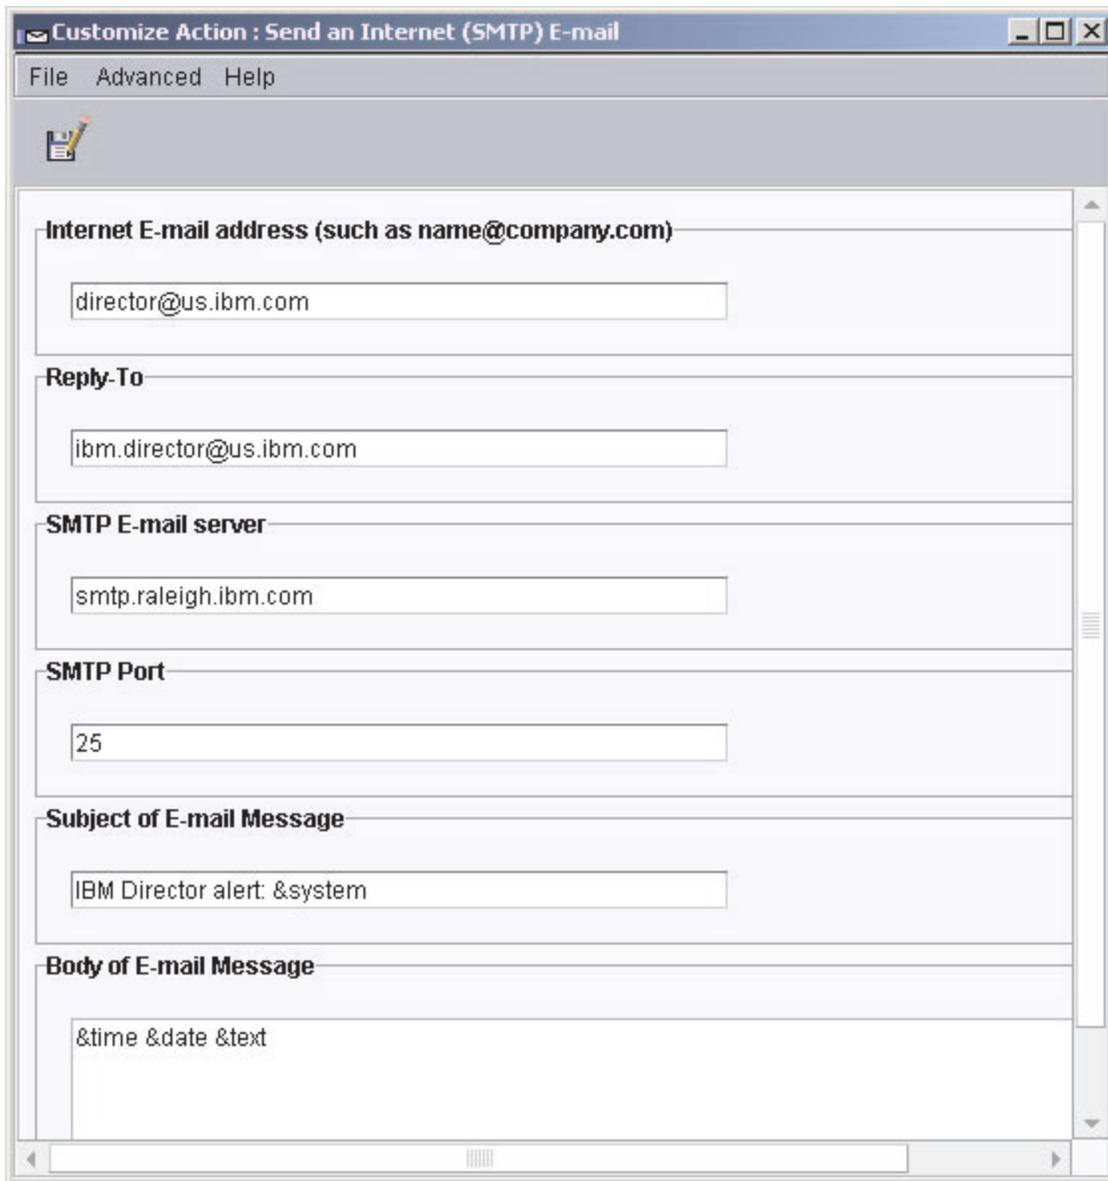

Figure 47. Customize Action window displaying example values
2. Complete the fields. See Figure 47 on page 82 for example values.